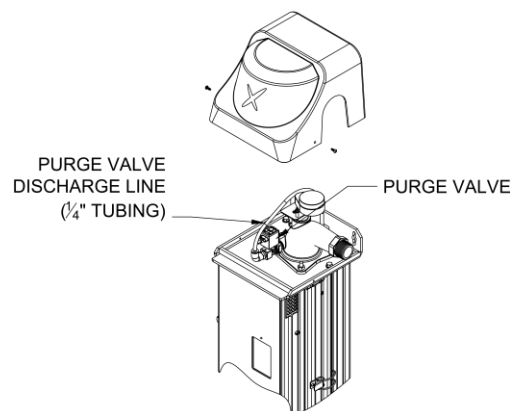

Figure 3-1 Lync UV-H Header Connections
9. Connect the purge valve to a drain using the tubing provided – see Figure 3.1. Note that an air gap is typically required between tubing and drain - follow local plumbing regulations. The tubing can be placed down the back side of the unit. The tubing should be secured to the wall or floor to prevent it from moving during the purging cycle. During startup of the unit, it is strongly recommended to test the purge valve to confirm connections are free of leaks and the water discharges to drain.